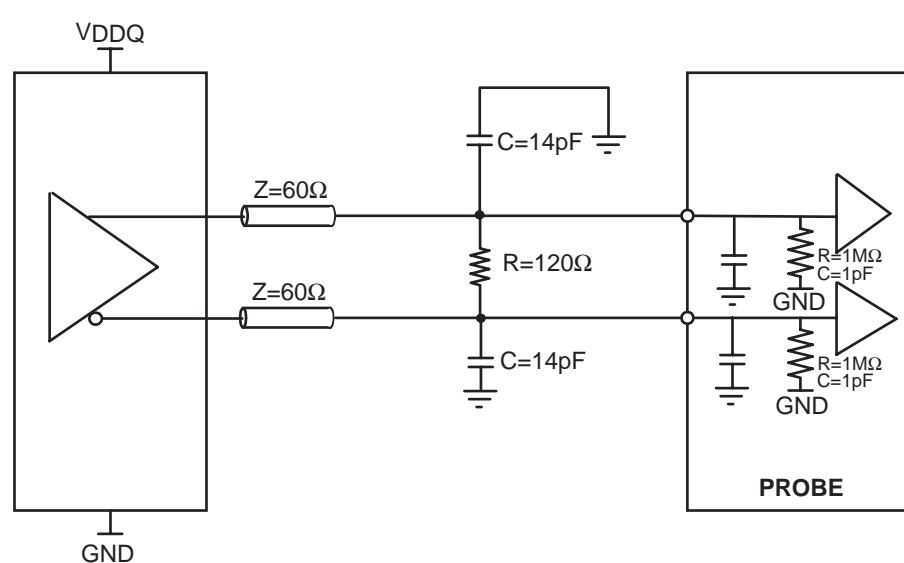

Figure 2. Output Load Test Circuit 1
3. V_{OX} specified at the DRAM clock input or the test load in Figure 2.